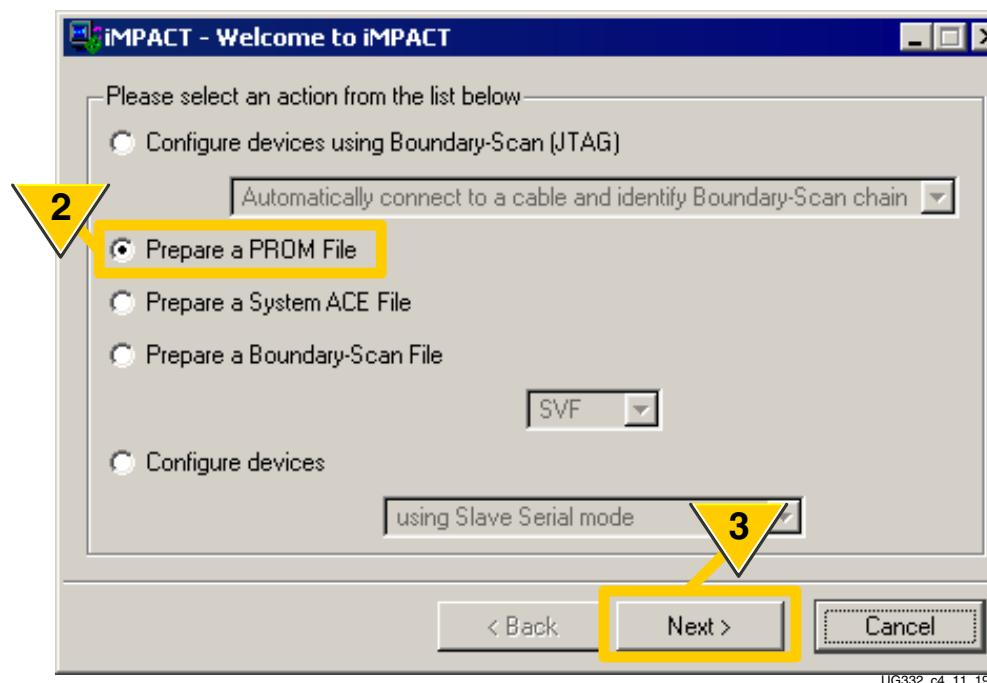

Figure 3-8: Prepare a PROM File
2. As shown in Figure 3-8, select **Prepare a PROM File**.